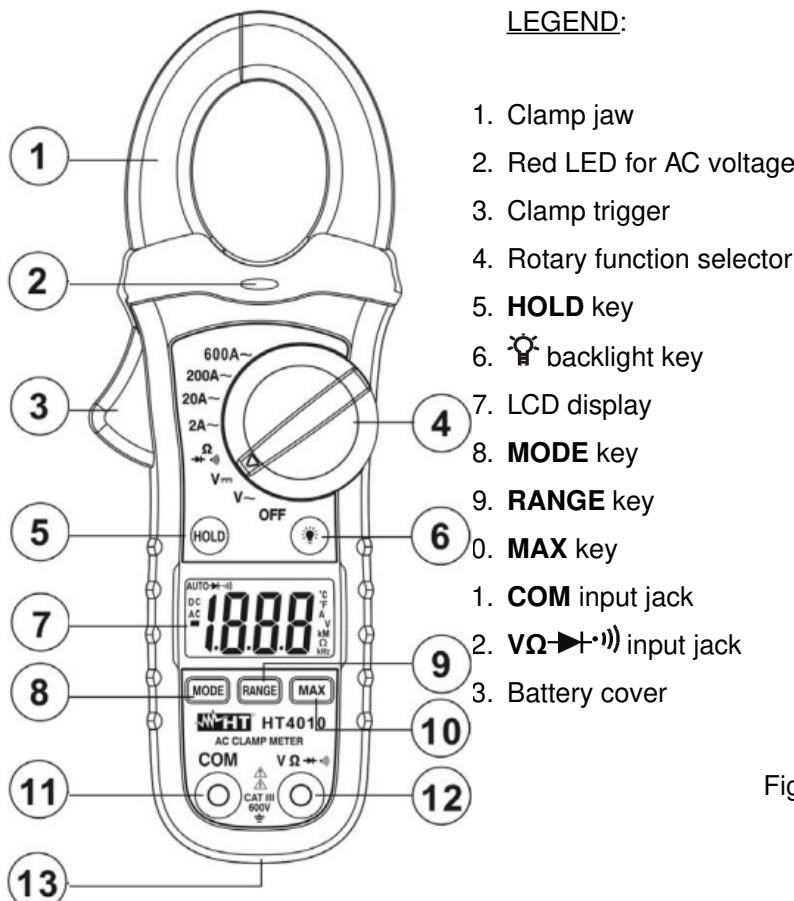

Fig. 1: Instrument description
1. Approach the meter closest to AC source and note the turn on of red LED which is placed to the bottom of clamp jaws (see Fig. 1) which detect the AC voltage